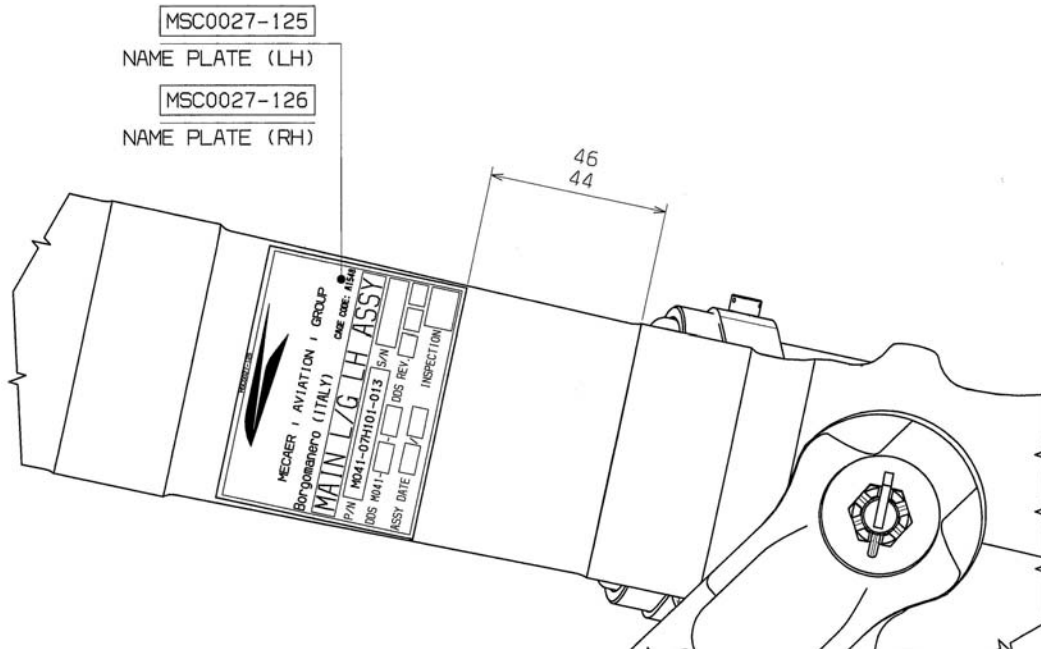

Figure 1. MLG Main Fitting Nameplate Location
- (3) MFG DATE/ASSY DATE to remain as on the original nameplate (do not change the date to the current date).
- (4) Original nameplate shall have a large black “X” marked across the nameplate from corner to corner with permanent marker to void the nameplate. Original nameplate to remain attached to the old Main Fitting.
- (5) Locate position for new nameplate installation on the new MLG Main Fitting 44-46 mm (1.73-1.81 inch) up from the lower strengthening band in accordance with Figure 1.
- (6) Pre-bend new Nameplate to conform to the contour of Main Fitting.